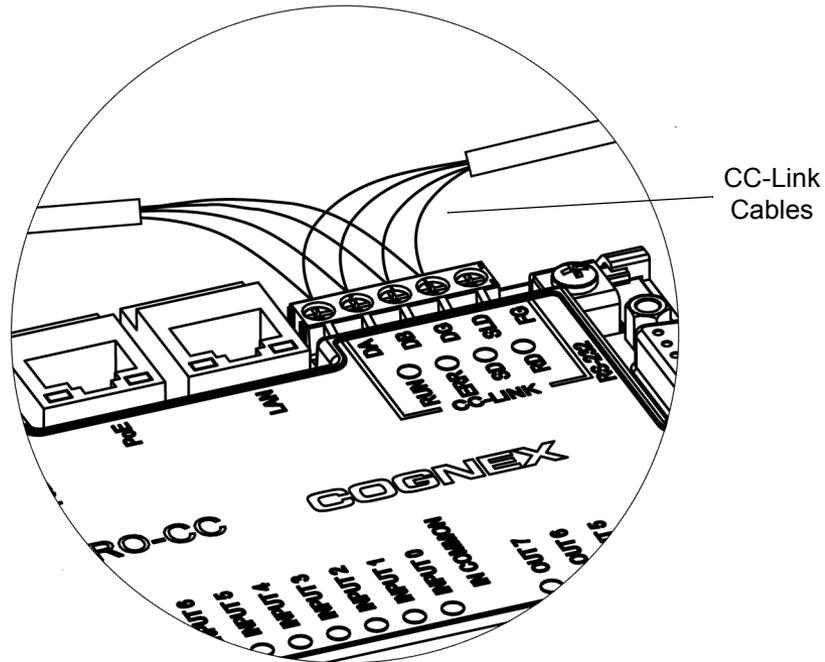

Figure 2-9: Connecting the CC-Link Cable
9. CIO-MICRO-CC only: If you want to connect the supported In-Sight vision system to a CC-Link device, connect one end of your CC-Link cables to the CIO-MICRO-CC CC-Link terminals as shown in Figure 2-9 and the other end of the cables to the other CC-Link devices. The CC-Link network is daisy-chained and may require a terminal resistor. Make certain that your connections are correct. For more information, see the *CC-Link Cable Wiring Manual* at [http://www.cc-link.org/eng/t\\_html/index.html](http://www.cc-link.org/eng/t_html/index.html). An example of a CC-Link network is depicted on page 49.